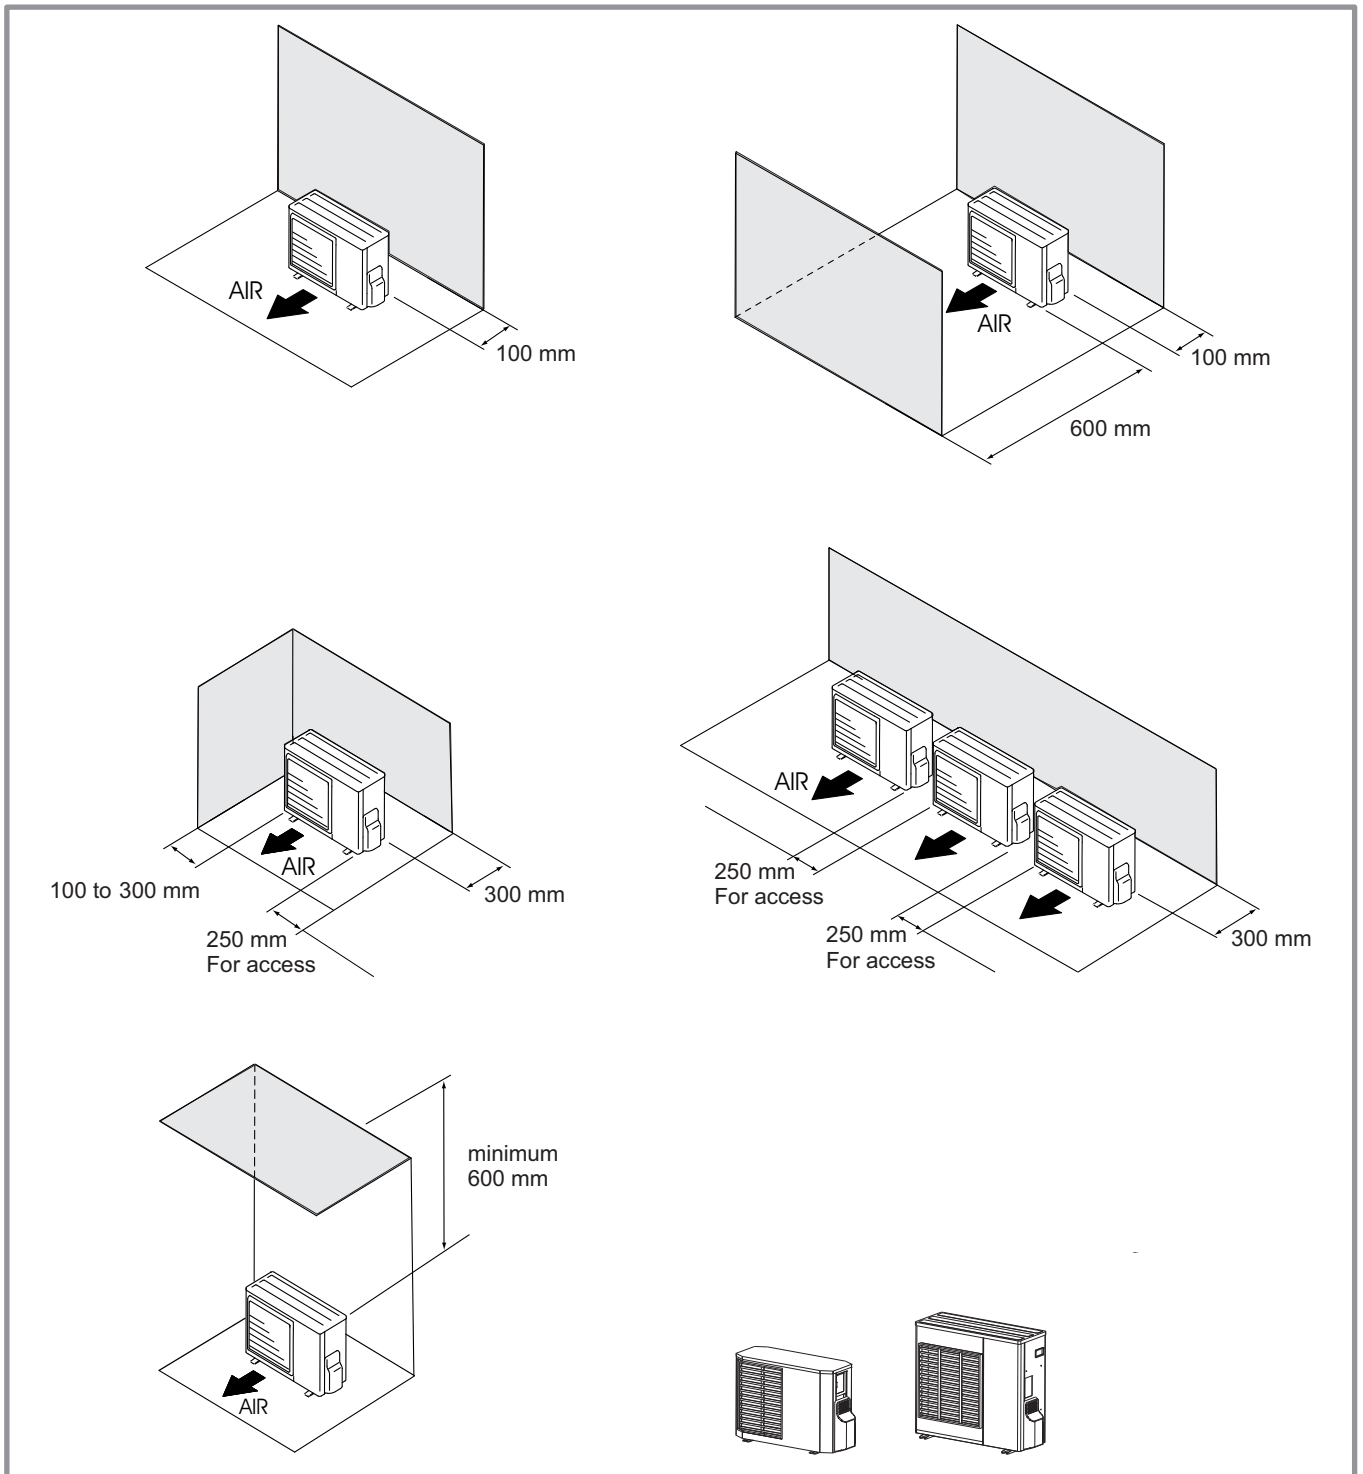

figure 11 - Minimum installation clearances around outside unit (all models)
- ☞ **The outdoor unit must only be installed outdoor (outdoors). If a shelter is required, it must have broad openings on the 4 walls and observe the installation clearances (figure 11).**
- The unit must be easily accessible for future installation and maintenance work (figure 11).
- Nothing should obstruct the air circulation through the evaporator and from the fan (figure 11).